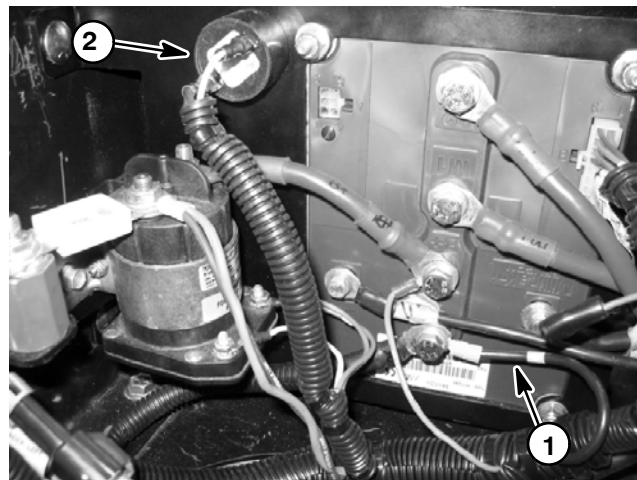

Figure 27
2. Disconnect wire harness connectors from alarm (Fig. 27). Using jumper wires, correctly connect 12VDC source to the alarm terminals noting polarity shown on alarm decal.